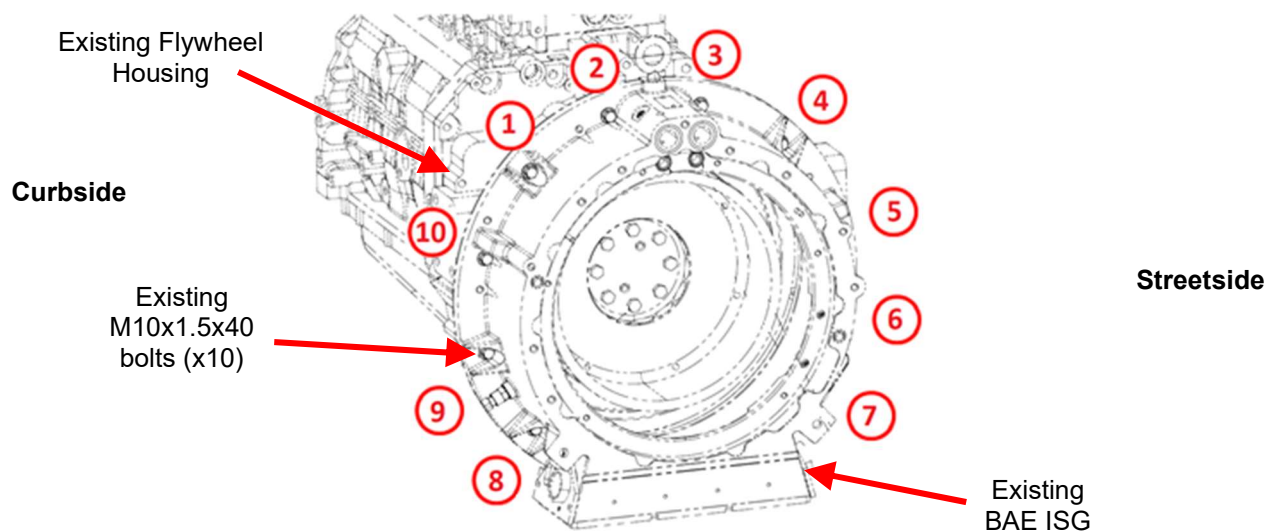

Figure 2: BAE ISG Mounting Bolt Locations
5. Locate the BAE ISG mounting bolts as shown in Figure 2.